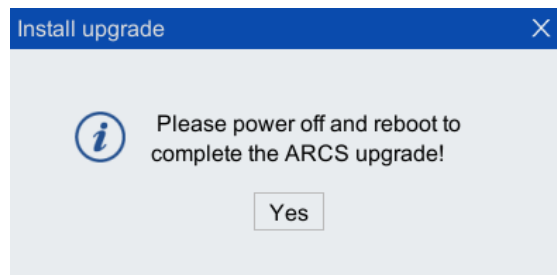

Figure 8-44 "Please power off and restart to complete the ARCS upgrade!" prompt box
Step4.When "Please power off and reboot to complete the ARCS upgrade!" dialog box in Figure 8-44 pops up, click <Yes> button to restart the control cabinet to complete the ARCS upgrade.